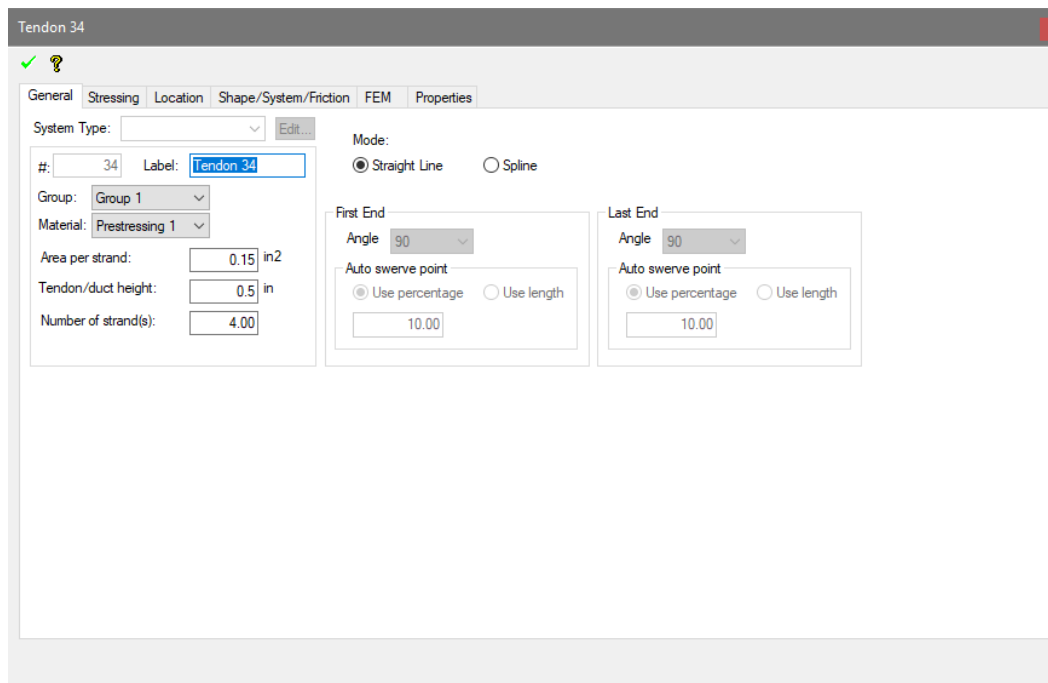

Figure 8-28
- Click on the *Item's Properties*  icon of the **Bottom Quick Access Toolbar**. This will open up the *Tendon* properties window as shown in **FIGURE 8-28**.